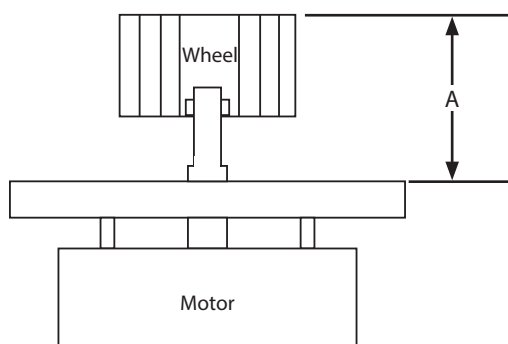

Figure 6: Blower Wheel Assembly
8. Install the blower wheel to the dimensions specified in Figure 6.